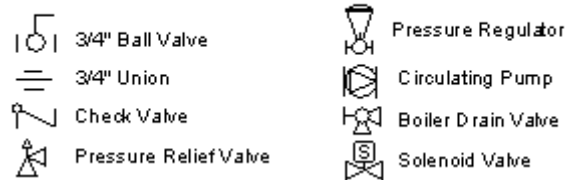
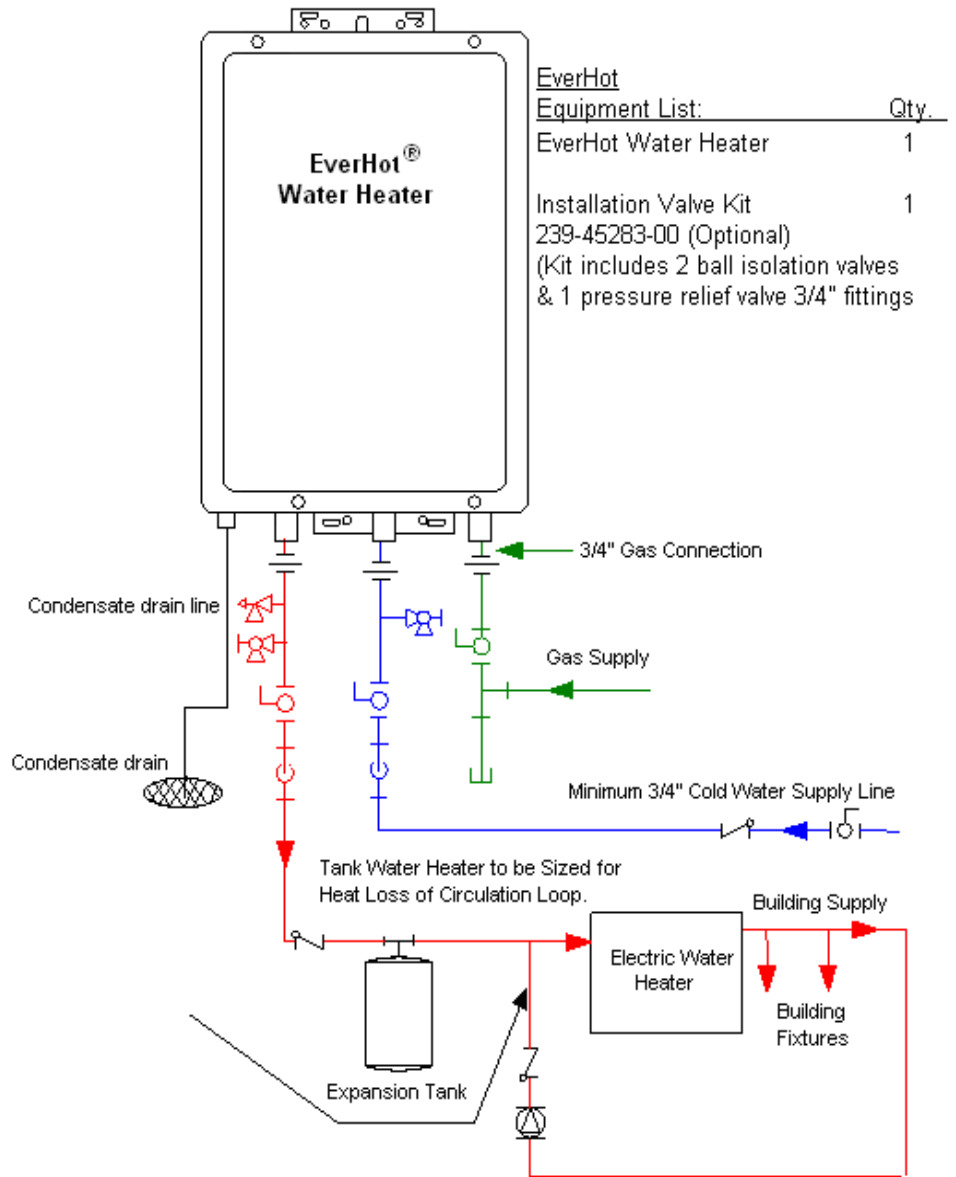

Figure 4. Recommended Piping for a Basic Installation.
Figure 5. Recommended Piping for a Circulation Systems.
3. Install a pressure relief valve on a tee connection from the hot water outlet piping from the water heater. Refer to the piping diagrams (Figure 4 and Figure 5) and pressure relief valve warning in Section IV, "Water Connections."